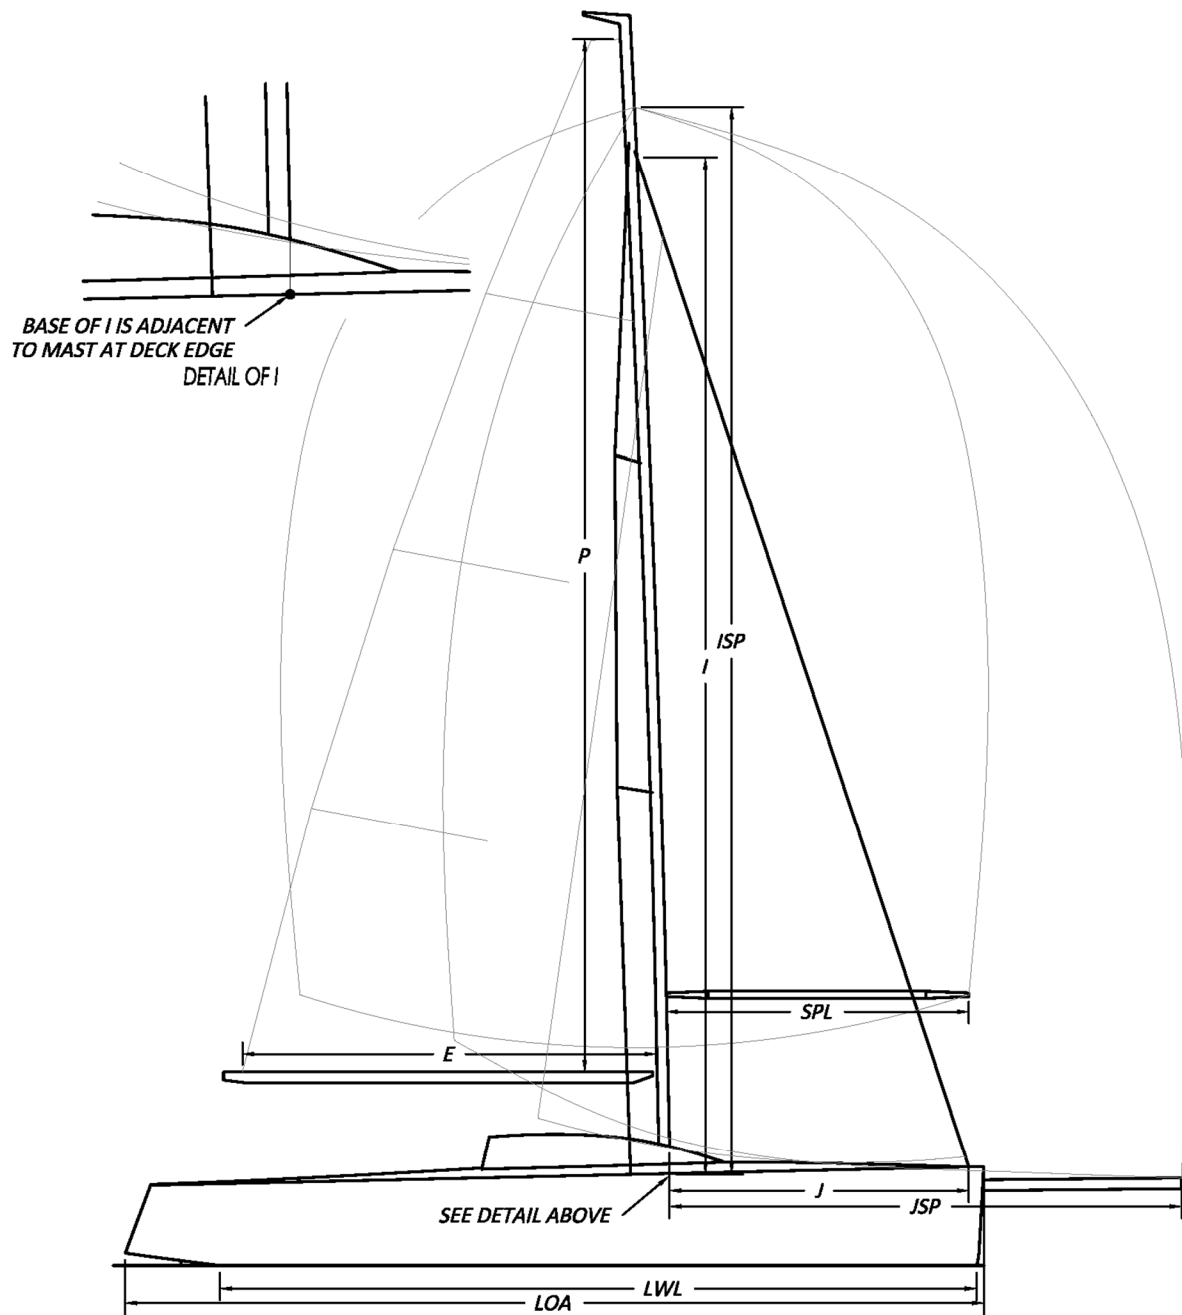

FIGURE 1 - SAIL PLAN, RIG AND VESSEL DIMENSIONS
- a. Relevant dimensions can be found in Figures 1 and 5 .
- a. Relevant dimensions can be found in Figures 1 and 4
- a. Relevant dimensions can be found in Figure 1